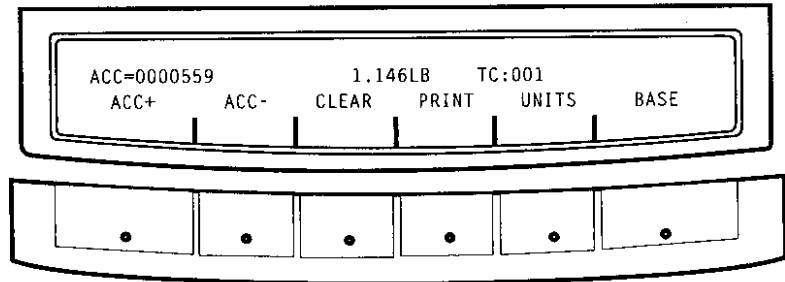

Figure 6
The message and soft keys shown in Figure 6 appear. (Numbers used in Figure 6 are just examples.)
The message line in Figure 6 gives you the total count accumulated, the total weight accumulated, and the transaction count (TC).